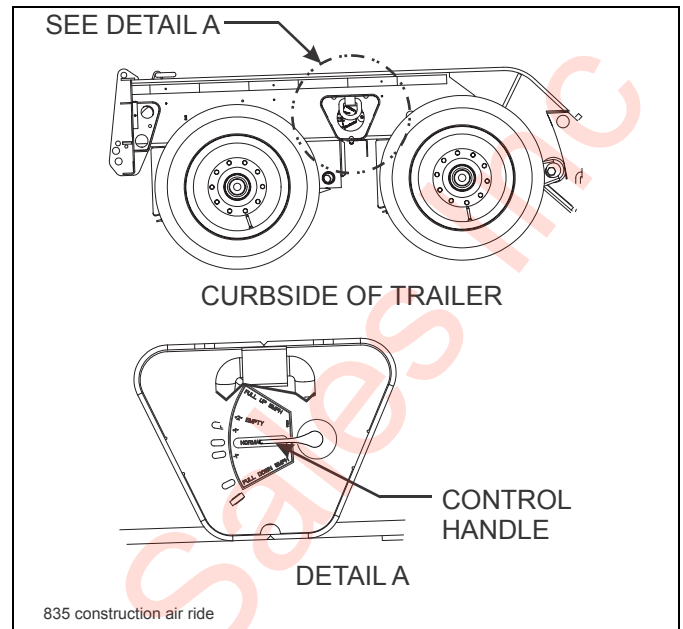

Figure 3-8: Air Raise/Lower Decal Location (835D Construction)
1. Position control handle at normal ride (**See Figure 3-8.**) Loaded trailer may be operated 1" above or below normal ride position.